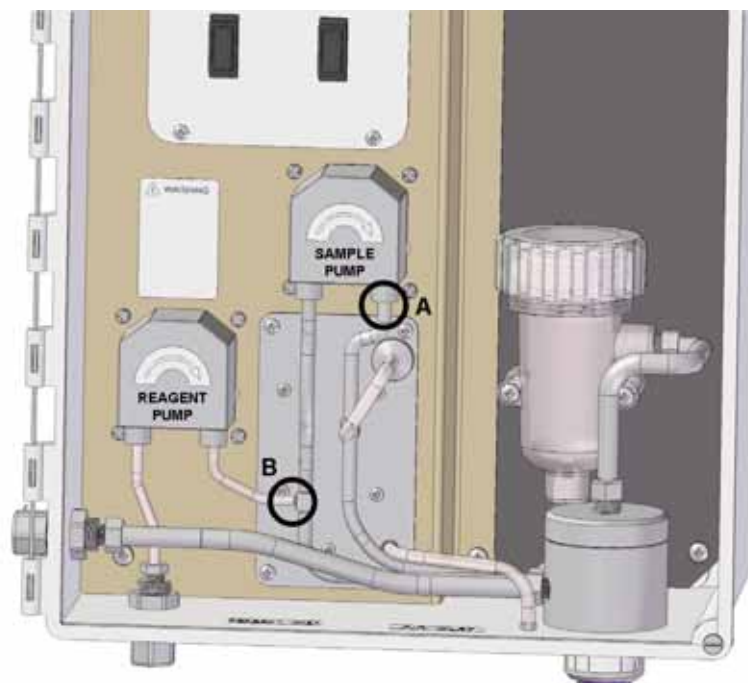

FIGURE 13-1. Disconnecting sample (A) and reagent (B) tubing prior to checking flow.
- b. Disconnect the luer fitting on the discharge of the sample pump. See **A** in Figure 13-1.
- b. Disconnect the reagent tubing at the injection tee. See **B** in Figure 13-1.
1. Disconnect the anode and cathode leads from terminals 8 and 10 on TB1 and connect a decade box and 1.5V battery as shown in Figure 13-1. It is not necessary to disconnect the RTD leads.